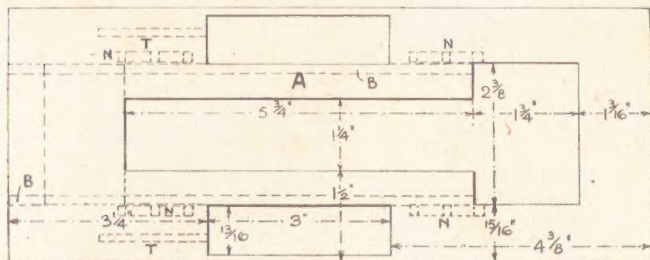
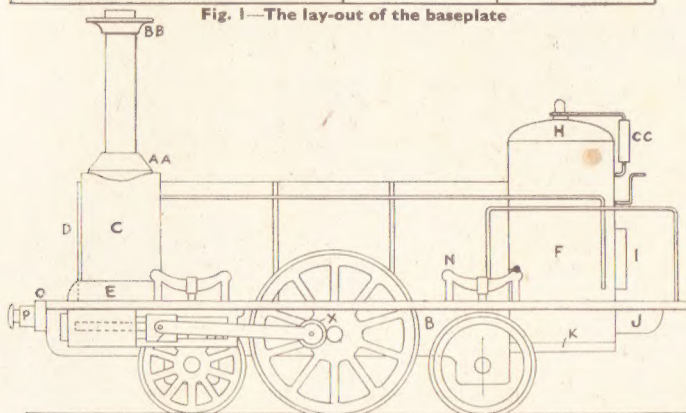

Fig. 1—The lay-out of the baseplate
Fig. 4—Side elevation showing position of parts
$\frac{3}{8}$ in. thick will be used for all these pieces. The top (H) will consist of two pieces $2\frac{1}{2}$ ins. by $1\frac{1}{2}$ ins. glued together and afterwards shaped up with rasp, file and glasspaper to the outline shown in the side view Fig. 4, and the detail Fig. 3. Take care in assembling and gluing up the pieces to see that they are butted together properly and in the order shown, such as pieces (G) go in between the sides (F) of the firebox.
each cylinder, as shown in Fig. 4 and on pattern sheet. The piston which works freely in the hole of the cylinder is shown as (V) on the sheet, and the square portion of it must slide easily in the slide piece (T) which is glued centrally with the cylinder to the footplate. Two of each piece will, of course, be made, one each side of the loco.
To cover this framework and so form the circular boiler, we have a square of stoutish card $5\frac{1}{2}$ ins. long by about 7 ins. wide. Apply glue all round the edges of the three discs and then bend the card on to them, holding the latter tightly in place by slipping over two or three elastic bands until the glue has hardened. The completed boiler should now fit accurately and be glued between the two end uprights of the footplate and go into the opening of the latter for a distance of $\frac{3}{8}$ in. Four springs, as (N) on the pattern sheet, should next be cut from $\frac{3}{8}$ in. wood and glued to the footplate in the positions given on the plan Fig. 1, and side view Fig. 4.
A glance at Fig. 4 gives the general arrangement of the fittings.